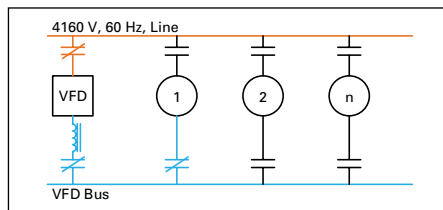

Figure 10.4-15. VFD Starts Motor #1
- VFD closes input contactor (Figure 10.4-15)